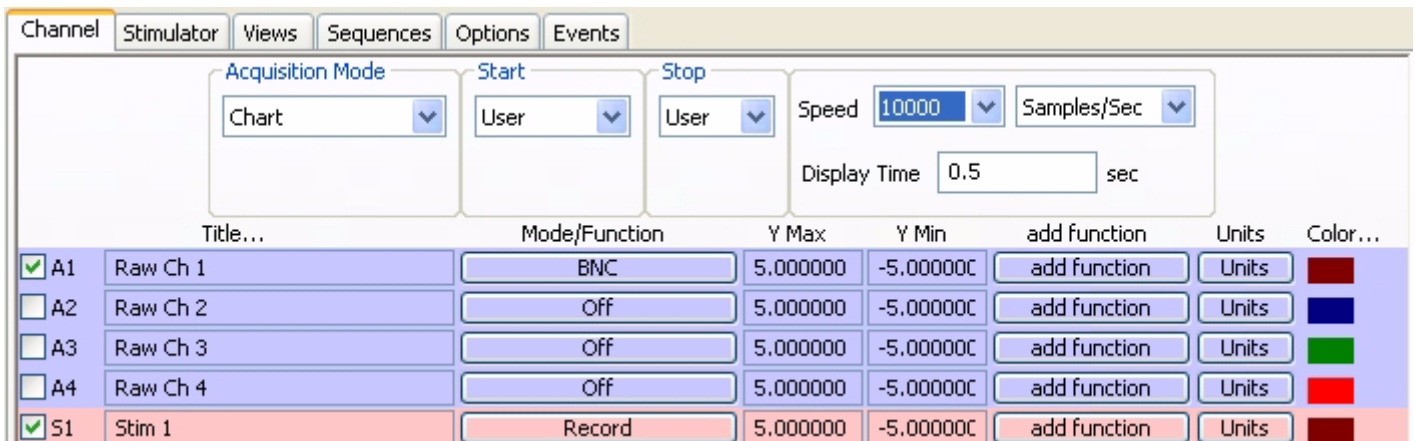

Figure 6-2: Channels page of the Preferences dialog window set for the pulse mode example.
1 To construct and record some examples of stimulus pulses, select **Preferences** from the **Edit** menu. On the **Channel** page of the **Preferences** dialog window set a channel that has a BNC input to record at 10,000 samples/second and display 0.5 seconds on the screen. Also select the Stim1 channel and set it to record the stimulator. (Figure 6-2 on page 83).
- 1 To construct and record an example of pulse trains, select **Preferences** from the **Edit** menu. On the **Channels** page of the **Preferences** dialog window set a channel that has a BNC input to record at 10,000 samples/second and display 0.5 second on the screen (Figure 6-2 on page 83).
- 1 To construct and record an example of pulses in **Step** mode, select **Preferences** from the **Edit** menu. On the **Channels** page of the **Preferences** dialog window set a channel that has a BNC input to record at 10,000 samples/second and display 0.5 second on the screen (Figure 6-2 on page 83).